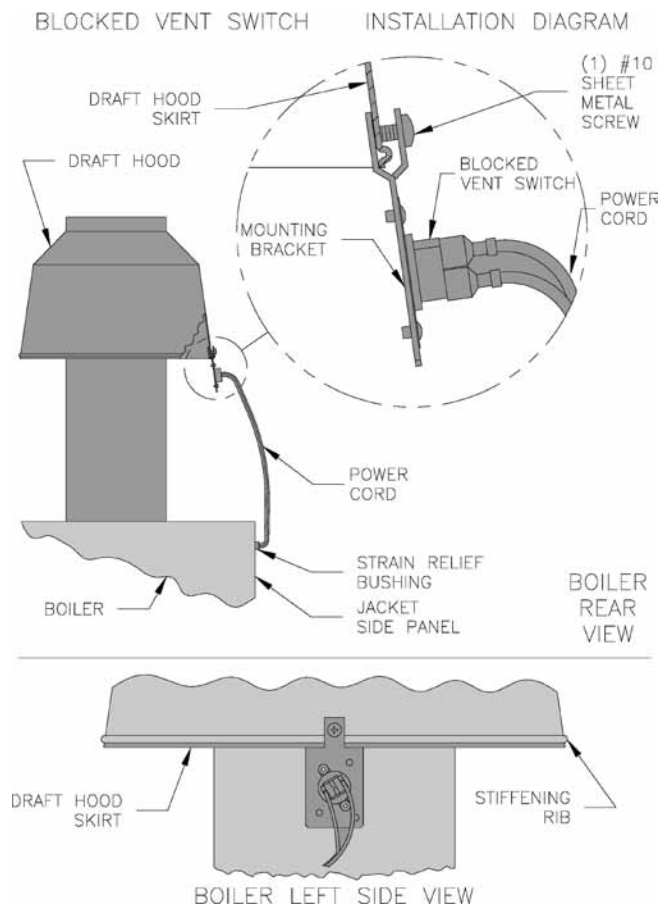

Figure 8: Blocked Vent Switch Installation
2. Position mounting bracket onto lower edge of Draft Hood skirt. Locate center tooth (with #10 sheet metal screw) on outside and other two teeth inside Draft Hood skirt. See Figure 8.
5. Verify power cord, mounting bracket and Blocked Vent Switch are secure and located as shown in Figure 8.